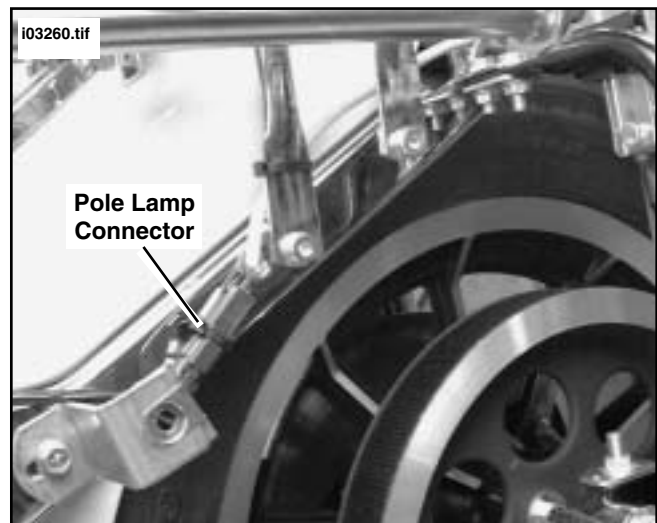

Figure 2. Pole Lamp Connector (FLHTP Shown)
5. See Figure 2. Locate female connector (installed at factory) and snap male and female Deutsch connectors together. Secure connector along saddlebag support tube (i.e. as shown) using cable strap(s).